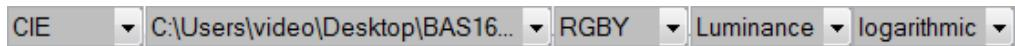

Figure 50. Screenshot of OECF Display Option Buttons
- 19. On the last test file analyzed, click the **Result** button at the bottom of the **Settings** space and click the **CIE**, **RGBY**, **Luminance** and **logarithmic** buttons under the **Results** display space (Figure 50).
26. The **Result**, **OECF**, **RGBY**, **Luminance** and **logarithmic** button selections should be made to view the appropriate plot image (see Figure 50).